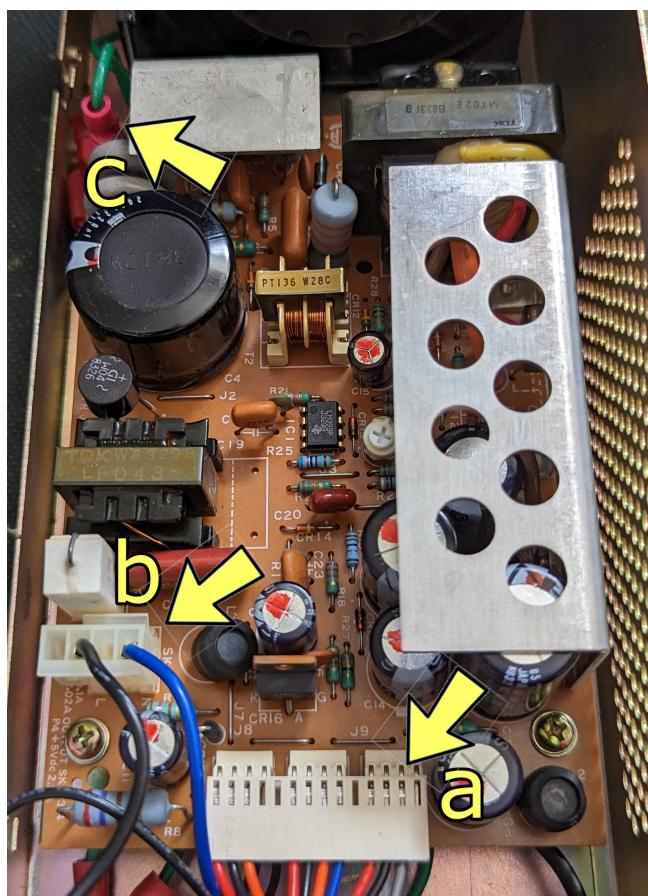

Figure 5.1: PSU connector positions.
3. Disconnect the motherboard (a), mains (b), and ground (c) connectors, as shown in Figure 5.1 below.